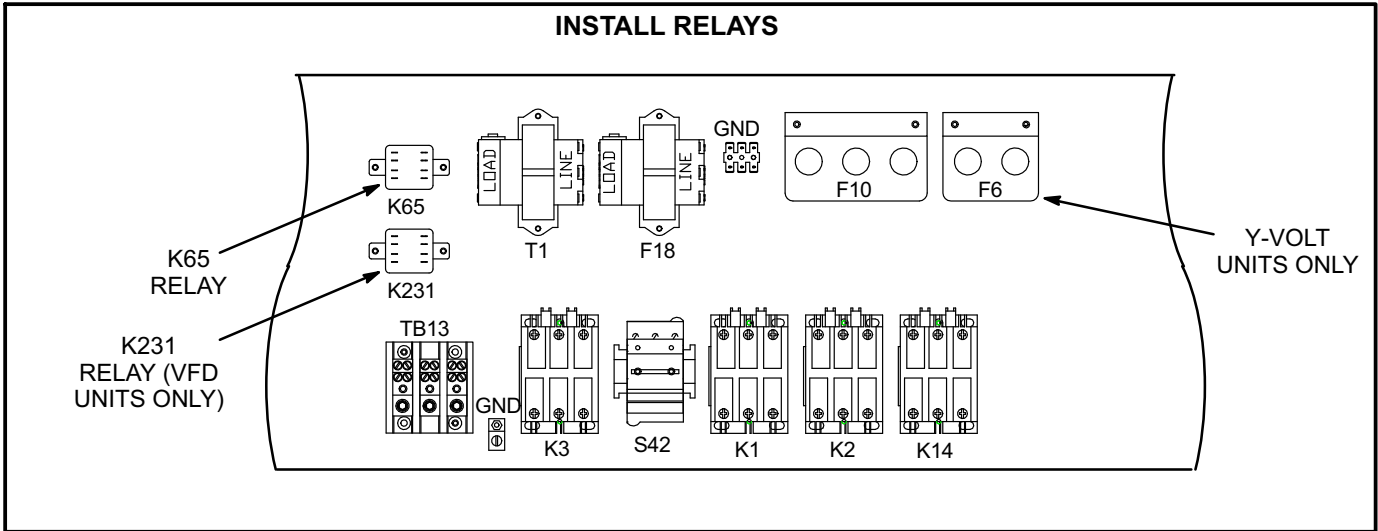

FIGURE 1
- 2- Install K65 exhaust fan relay in unit control box using screws provided. On units equipped with a variable frequency drive (VFD), install K231 in addition to K65. See figure 1.
- 3- *Y-Volt Units Only* - Install F6 fuse block near F10 fuse block. Insert fuses provided. See figure 1 and 2.